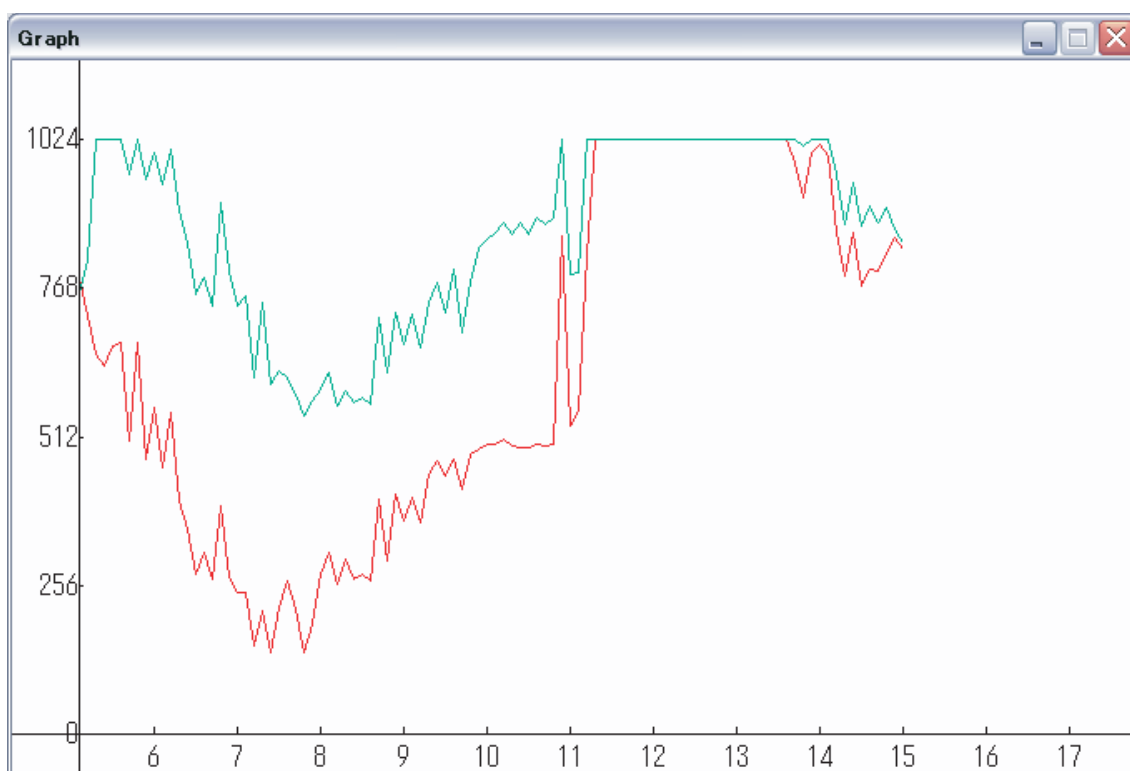

Fig.3 Graph
The form and time of the input value of the channel (CH) , will be displayed on the graph dialogue (fig. 3)